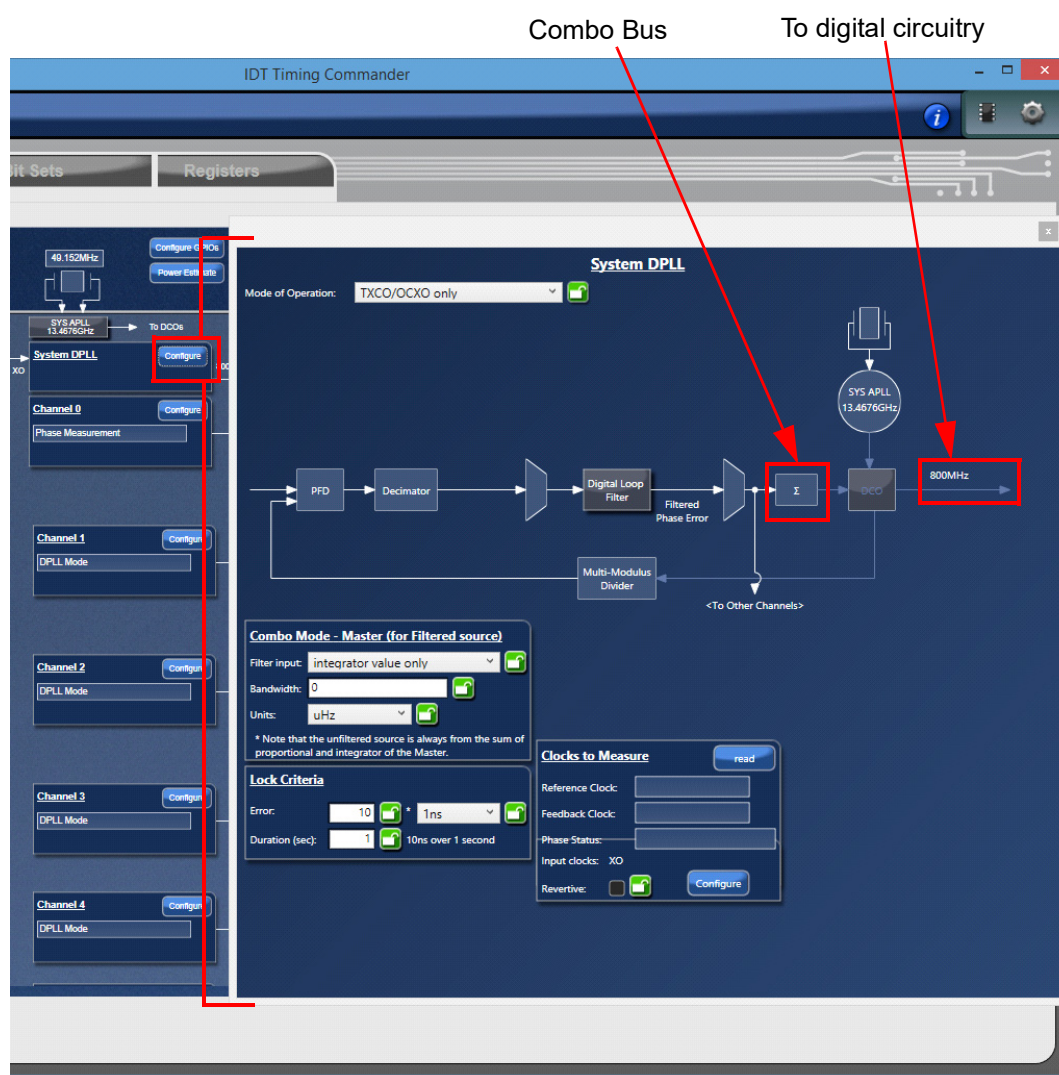

Figure 12. System DPLL Window
- The output of this DPLL is the system clock (800MHz) that feeds the internal digital circuitry of the device (see Figure 12)